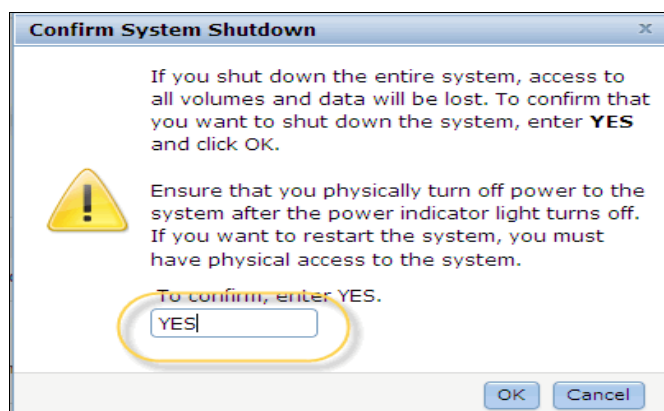

Figure 12-77 Shut Down confirmation
3. The Confirm System Shutdown window opens. A message opens and prompts you to confirm whether you want to shut down the cluster. Ensure that you stopped all FlashCopy mappings, data migration operations, and forced deletions before you continue. Enter Yes and click **OK** to begin the shutdown process, as shown in Figure 12-77.